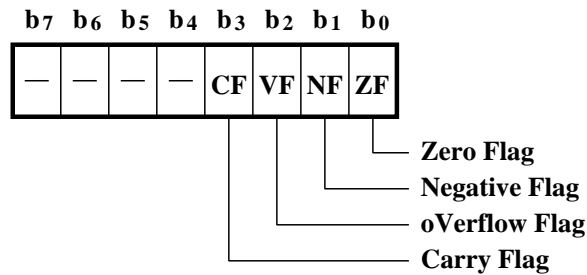

Figure 2: Flags register
This register comprises four bits: the carry flag (CF), overflow flag (VF), negative flag (NF), and zero flag (ZF). The flags are set or reset in accordance with the arithmetic result. Figure 2 shows the flag register.